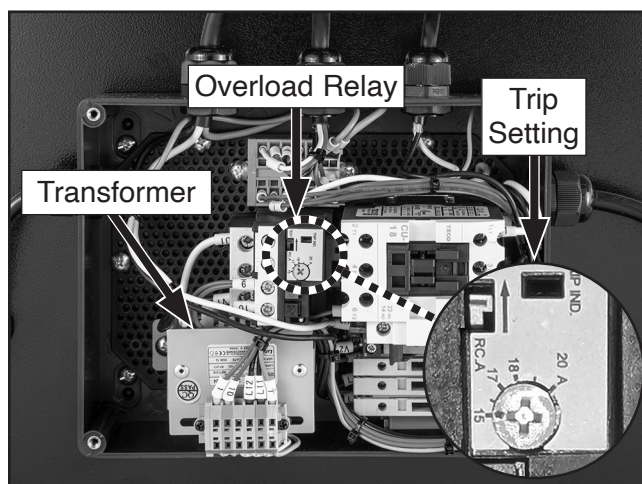

Figure 14. Location of transformer and overload relay in electrical box.
16. Change overload relay trip setting from 20A to 15A (see **Figure 14**).